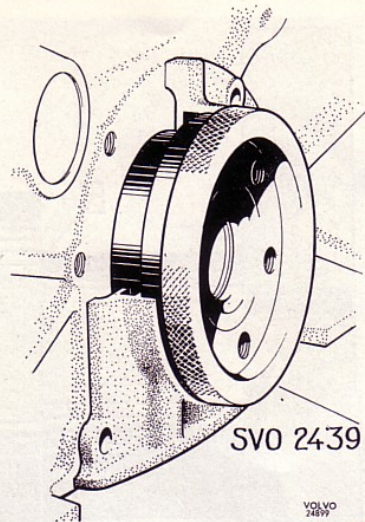

Fig. 41 Centering the rear sealing flange
3. Centre the flange with sleeve SVO 2439, Fig. 41. Turn the sleeve round while tightening the bolts and adjust the position of the flange if the sleeve jams. Check that the bottom edge of the flange lies flush with the bottom edge of the block.